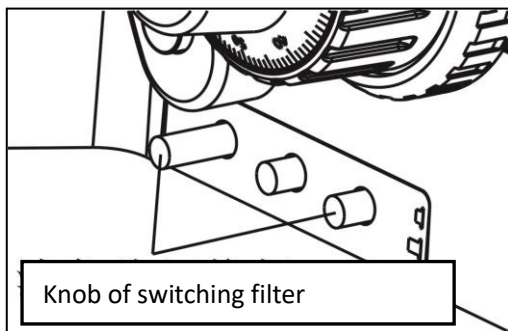

Fig 13
### 3-11 Using Frosted Sheet(fig 13)
As shown in figure 13, the state of using filter is push in the rod. When push out the rod, filter is in an empty state. LBD is a filter of increasing color temperature. ND25 is a filter of 25% light transmittance. ND6 is a filter of 6% light transmittance.
As shown in fig13, converter reserves a slot to hold the extensional function board. The ordinary light field board has been inset the slot before The lens of microscope leaving factory. If using other extensional function board, only need to tear down and loosen ②, pull out the standard light field board, then inset the extensional function board into the slot and freeze the bolt of ② .